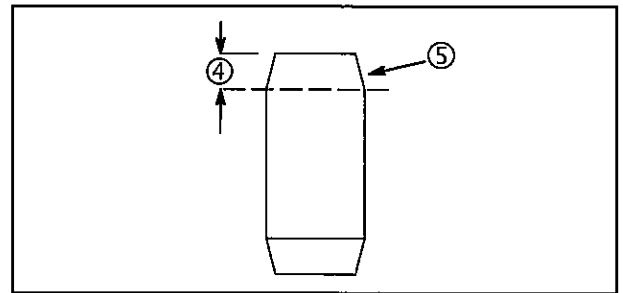

Fig. 12
4. Grind off the taper (5), approximately $\frac{1}{8}$ " (3 mm) (4), from one end of new roll pin as shown, **Fig. 12**.